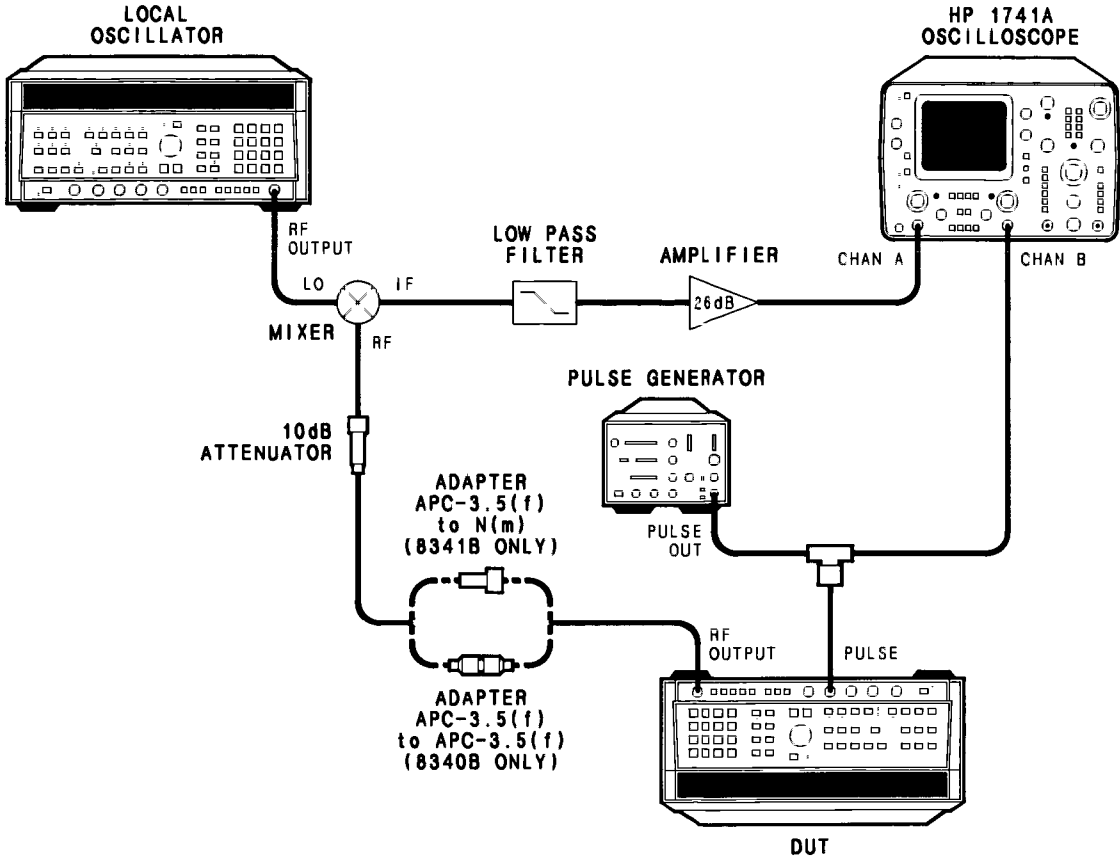

Figure 5-69. Slow Pulse Modulation Fine Adjust Setup
23. Connect the equipment as shown in Figure 5-69. Connect the mixer directly to the local oscillator's RF output to obtain the maximum LO drive to the mixer. Connect the BNC tee directly to the DUT's PULSE connector. Allow 30 minutes for the instruments to warm up.